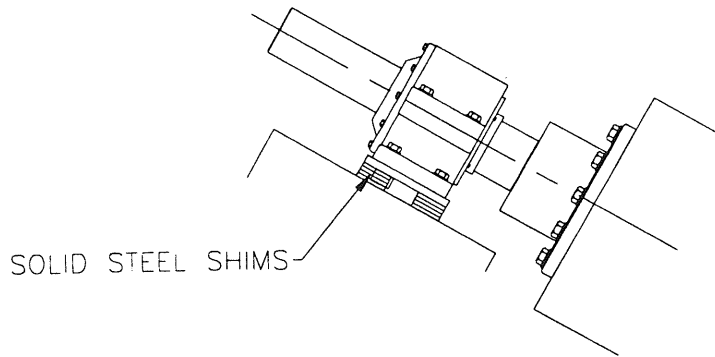

Figure D7
- d. Position the upper bearing, Figure D7. Shim and tighten the anchor bolts.